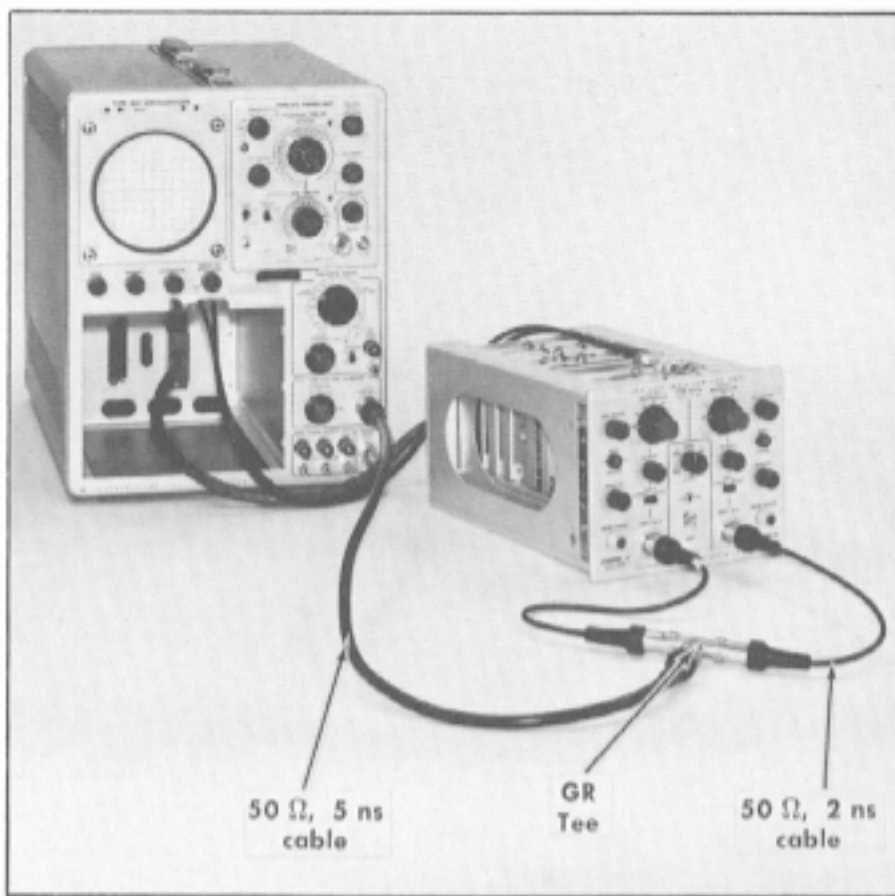

Fig. 6-31. Test equipment setup for step 21.
- a. Test equipment setup is shown in Fig. 6-31.